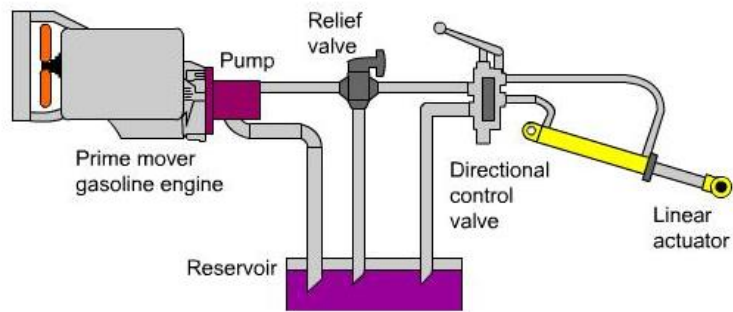

Figure A2c / Rajah A2c
- c) Construct the hydraulic system circuit in Figure A2c.